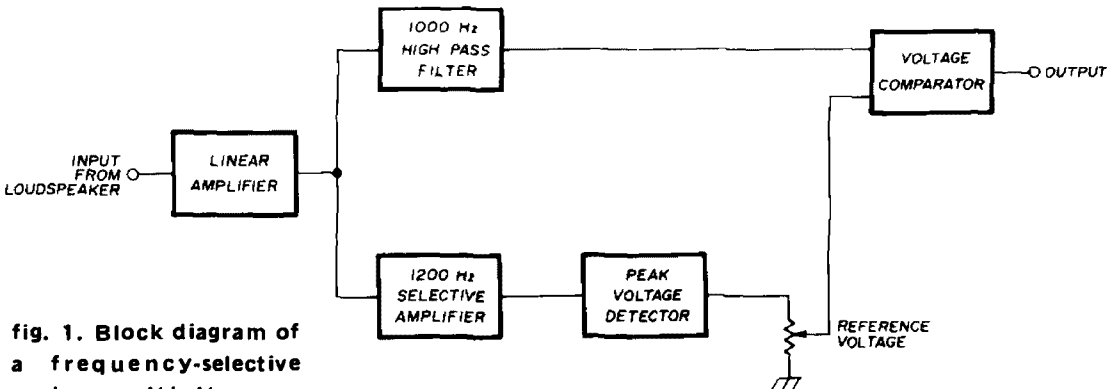

fig. 1. Block diagram of a frequency-selective and sensitivity-controlled sstv preamplifier which permits reception of sstv signals under adverse conditions.
In the block diagram of the system shown in fig. 1, the linearly amplified input signal passes through a high-pass filter and appears as a square-wave signal at the output of the comparator *only* if its amplitude exceeds that of the reference voltage, which is proportional to the peak voltage of the 1200-Hz synchronizing signal.
Fig. 1 is a version of the rock-mixer which includes a variable frequency crystal oscillator, a divide-by-*n* circuit (VXO), a mixer NAND to combine the fundamental and divided frequencies, and a coupling capacitor to your receiver local oscillator (LO). The coupling capacitor can be a gimmick (wire twisted around the grid lead to the LO tube).